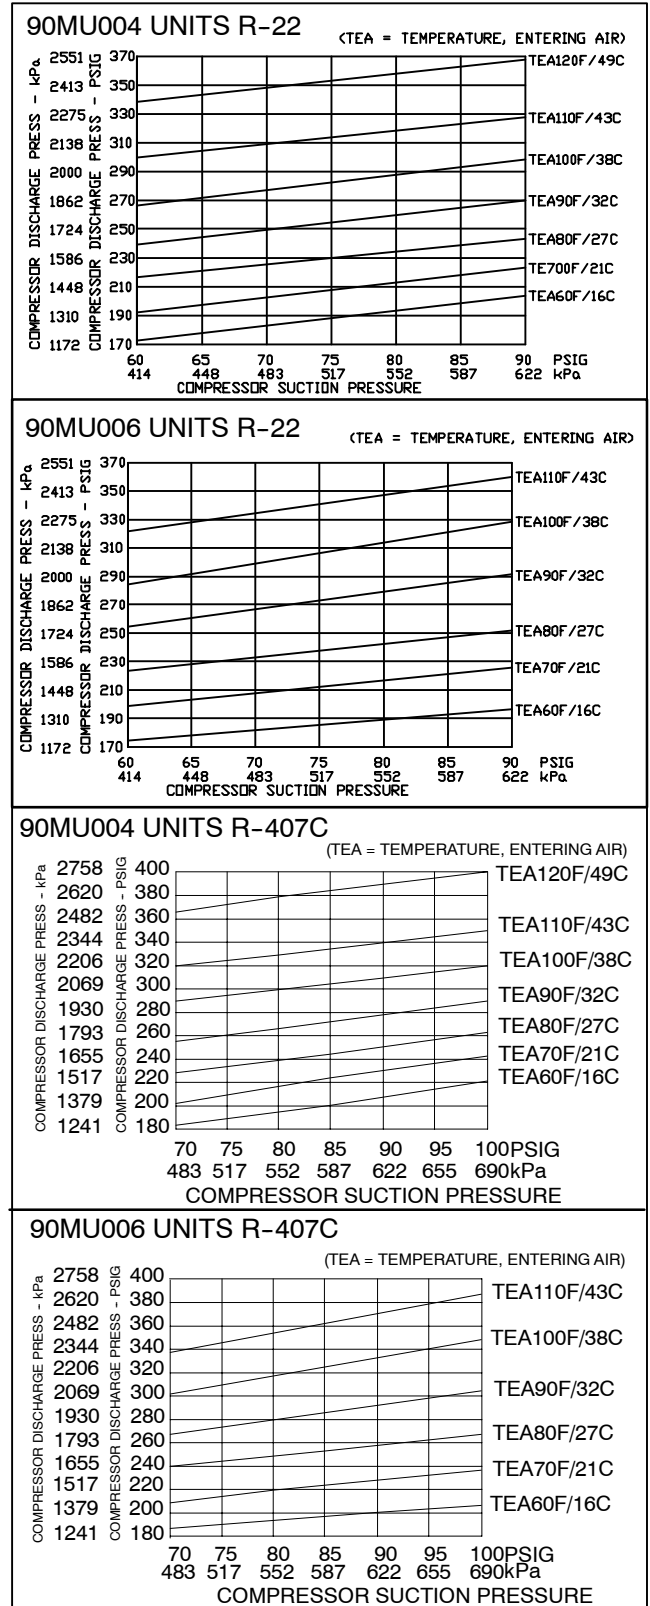

Figure 11 Charging Charts
- c. Using standard refrigerant charging techniques and charging charts (Figure 11) add refrigerant as required to maintain proper operating conditions.